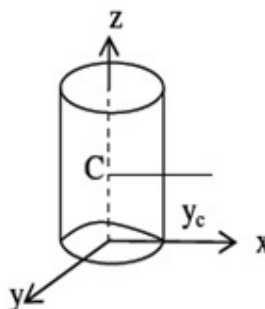

Figure 2
- b) Calculate the moment of inertia of a right circular cylinder of uniform density, radius of base  $a$  and altitude  $h$  with respect to its geometric axis (Refer Figure 2)